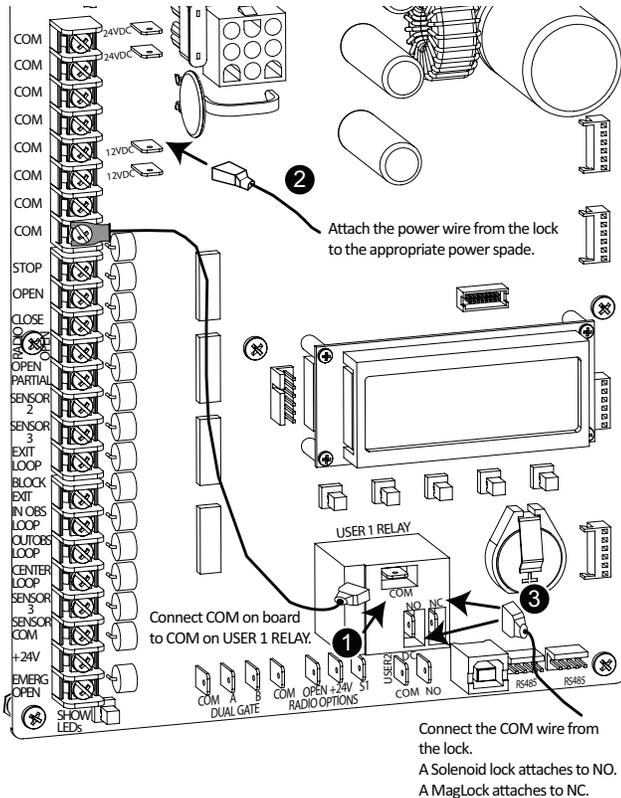

Figure 66. Lock Installation 12/24 VDC
1. Connect a wire between COM on USER 1 RELAY and a COM terminal on the Smart DC Controller board. See Figure 66.